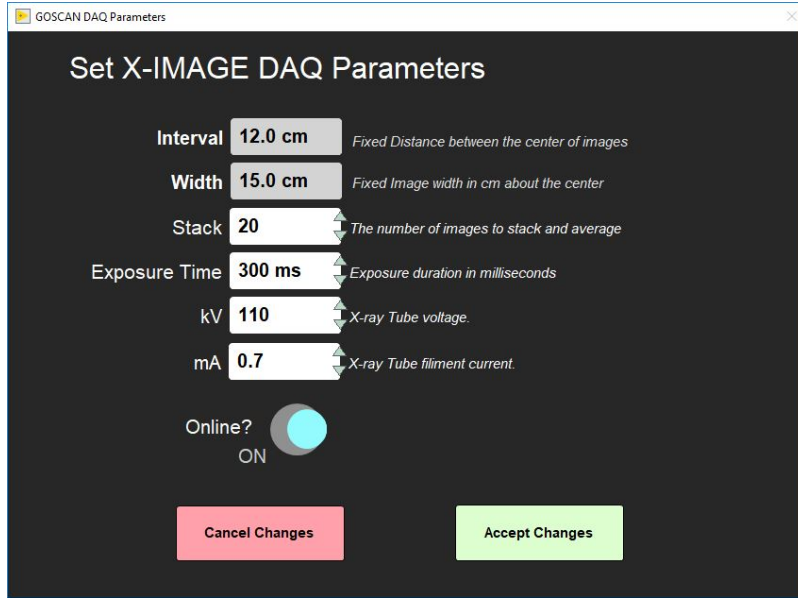

Figure 2. XMSL Measurement Editor Window.
1. Select **DAQ > Measurement Editor** from the **IMS** panel menu (Figure 2).